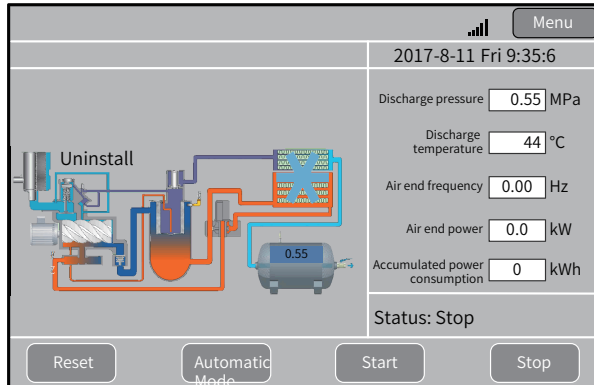

Figure 3-24 HMI main interface (example)
- 7) Tap **Start** on the Figure 3-24 interface to run the air compressor. Check whether the current and temperature are within the normal range, whether the electromagnetic valve status is correct, and whether pressure and temperature change are normal during operation.